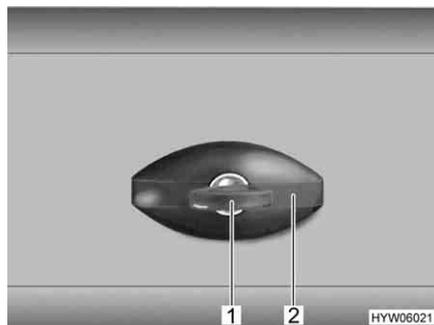

Fig. 27 Flap lock, elliptical-shaped, closed
- Insert key into locking cylinder (Fig. 27,1) and turn a quarter turn in an anti-clockwise direction. The lock handle (Fig. 27,2) snaps out.